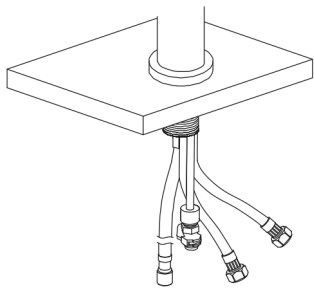

Figure 1
1. Assemble all the hardware, nuts, and attachments in the correct order. (See Figure 1)